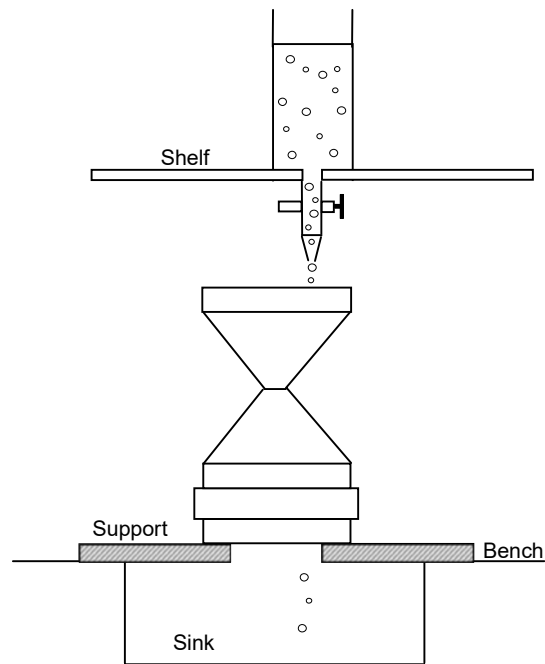

Figure 2 Arrangement for Setting and Calibrating the Raingauge
1. Install the gauge over a sink unit as illustrated in Figure 2, ensuring that it is correctly levelled.
1. Set up the gauge as illustrated in Figure 2, carefully levelled and connected to the datalogger.